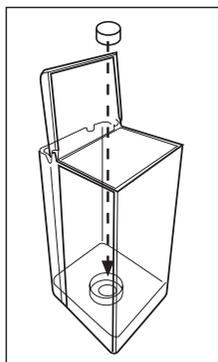

Fig. 19
- Fit the adapter into the tank as far as it will go (Fig.19)